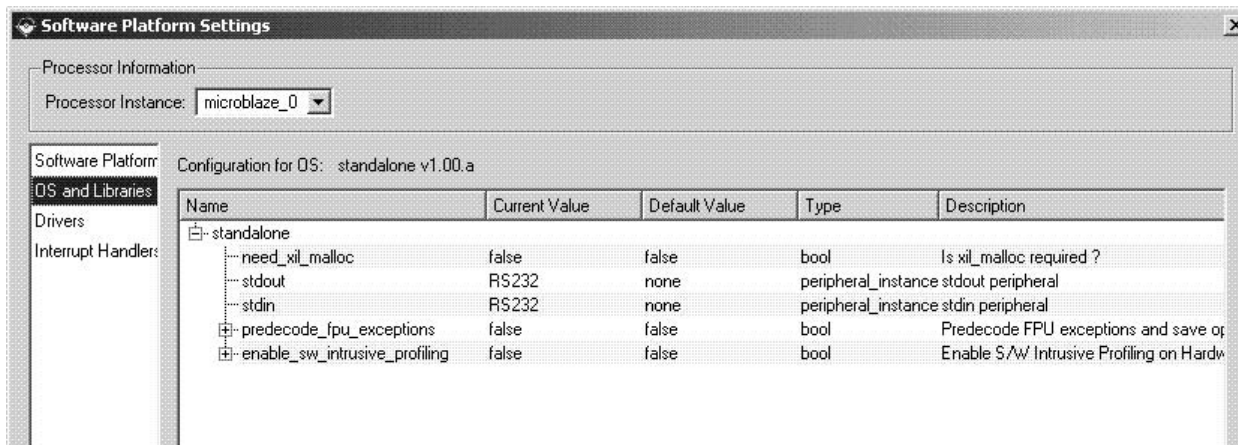

Figure 24: OS and Libraries view
- Select the OS and Libraries view as shown in Figure 24. This view allows the user to configure OS and library parameters. No changes are required.